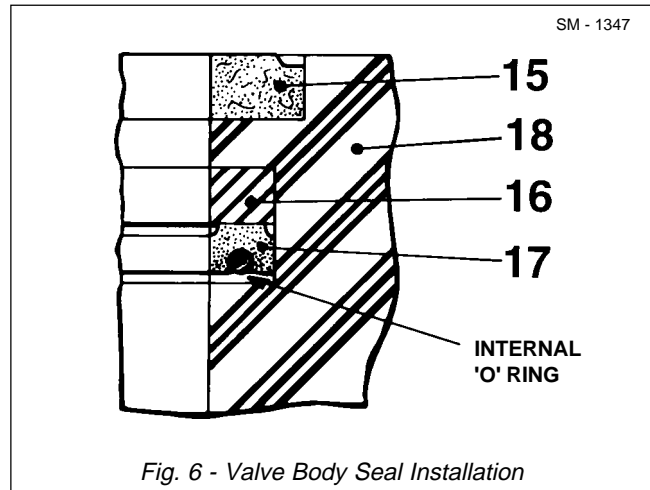

Fig. 6 - Valve Body Seal Installation
1. Install seal (17) in seal groove of valve body (18) first. Position seal (17) in the groove so that 'O' ring inside the seal is facing down toward the bottom of valve body (18). See Fig. 6.
2. Make sure the internal 'O' ring is still seated inside seal (17) and did not get dislodged during installation. Position seal (17) to the bottom of the groove.
3. Install backup ring (16) on top of seal (17). Start by hand and then continue to work into the groove either by hand or by using an 'O' ring installation tool.
4. Install wiper seal (15) in the top counterbore. Position wiper seal (15) in the groove so that the register lip is facing up toward the actuator.